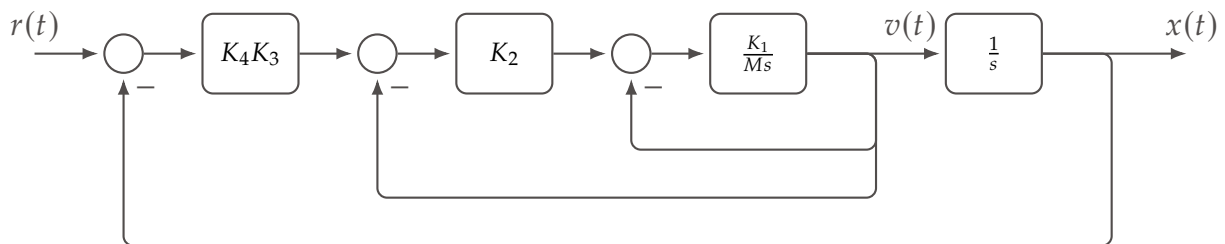

Figure 3.1: Entire closed-loop architecture for Lab 3.
- (1) The entire closed-loop system $G_3(s)$ can be described by the diagram in Figure 3.1. **Derive** the transfer function from $r(t)$ to $x(t)$ in terms of the symbols K_1 , K_2 , K_3 , K_4 , and M . Leave your answer in symbolic form. *It is not required, but it is wise to verify your answer against the transfer functions discussed throughout the lab. They should be consistent.*
- (2) You should find that the transfer function that you derived in (1) was a second-order transfer function with no zero. **Write** the transfer function of (1) in standard second order form by deducing what its DC gain \hat{K} ,